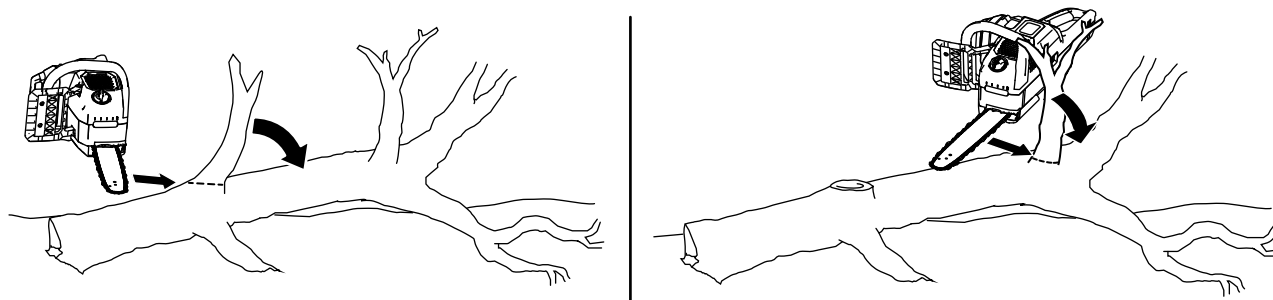

Figure 19
2. Moving from the base of the tree up, cut off the smaller limbs from the tree that are not supporting its weight off the ground (Figure 19).